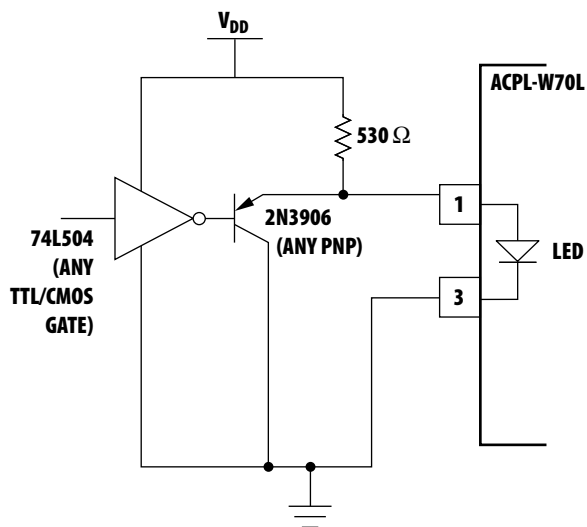

Figure 15. TTL interface circuit for the ACPI-W70L families.
1. Use of drive circuits where current is shunted from the LED in the LED "off" state (as shown in Figures 15 and 16). This is beneficial for good CM_H .
Using any one of the drive circuits in Figures 15-17 with $I_F = 6 mA$ will result in a typical CMR of $10 kV/\mu s$ for ACPL-W70L AND ACPL-K73L, as long as the PC board layout practices are followed. Figure 15 shows a circuit which can be used with any totem-pole-output TTL/LSTTL/HCMOS logic gate. The buffer PNP transistor allows the circuit to be used with logic devices which have low current-sinking capability. It also helps maintain the driving-gate power-supply current at a constant level to minimize ground shifting for other devices connected to the input-supply ground.